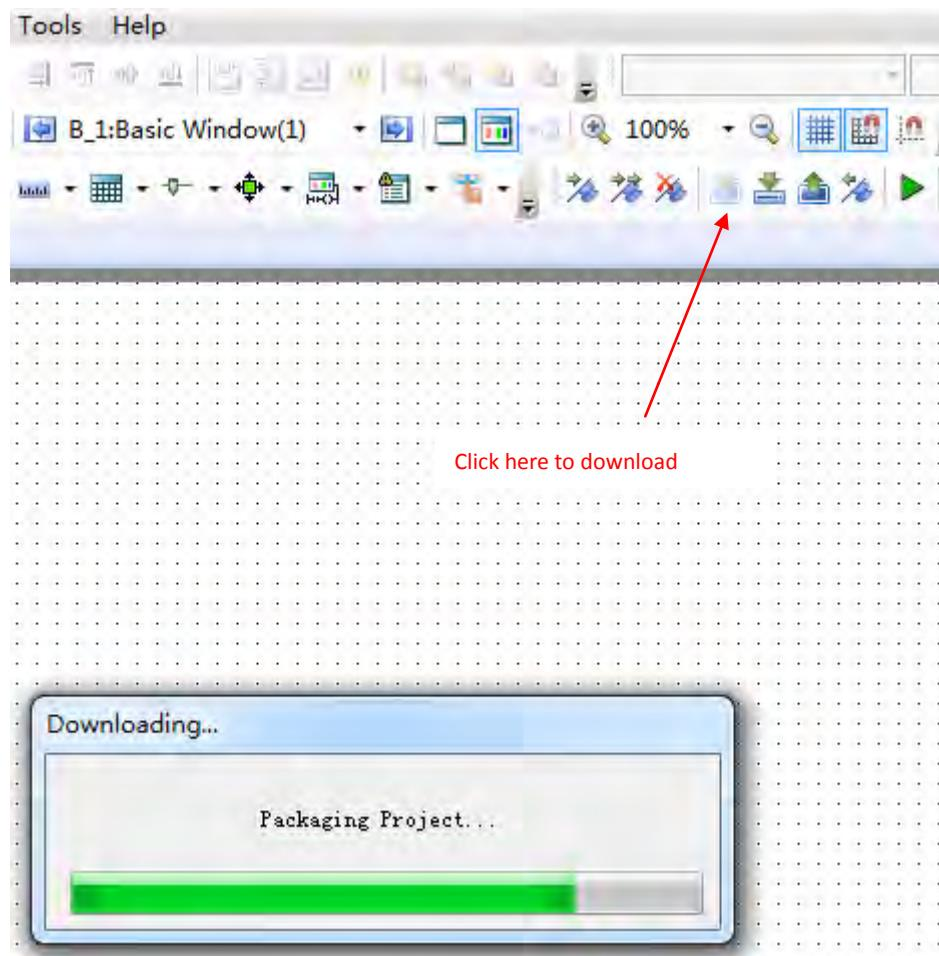

Fig. 25
- ① Switch on the power supply to the touch screen, select “Download” in the software, and wait till downloading is completed, as shown in Fig. 25.